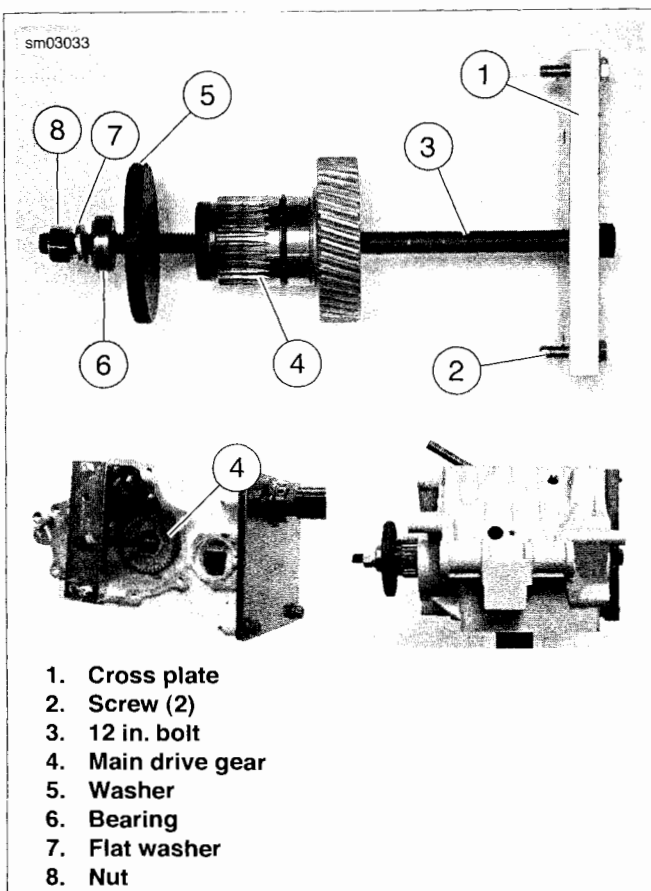

Figure 6-33. Removing Main Drive Gear
6. See Figure 6-33. Place CROSS PLATE (Part No. HD-35316-3A) (1) on right side of transmission case as shown,